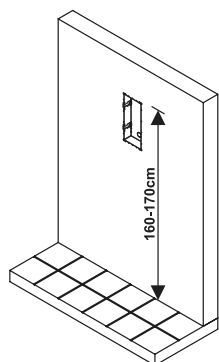

Fig. 63
1. It is recommended that the flush box (C) is mounted into the wall approximately 165-170cm between the top of the box and the floor level as shown in **Fig.63**.
6. Next close in the front support frame (H) and then pull it back from the flush box (C) while moving it slightly to the left, following the guide arrows, as shown in **Fig.63**;